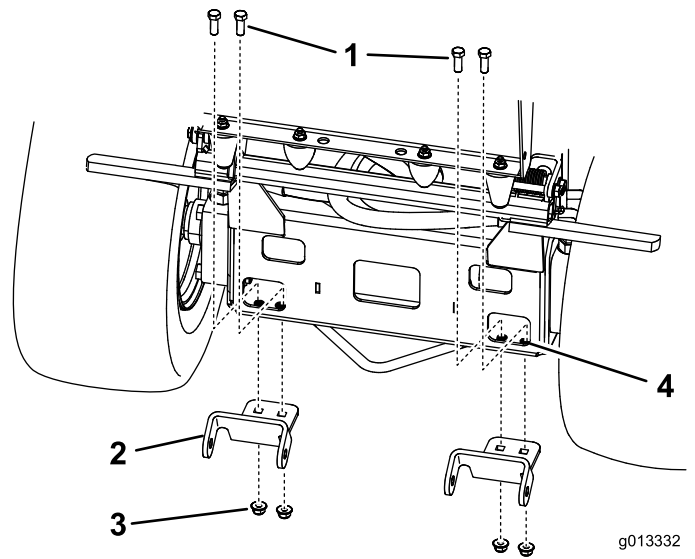

Figure 2
2. Install the mounting brackets to the bottom of the frame with 4 bolts (3/8 x 1 inch) or 4 carriage bolts (3/8 x 1 inch) and 4 flange nuts (3/8 inch) (Figure 2).